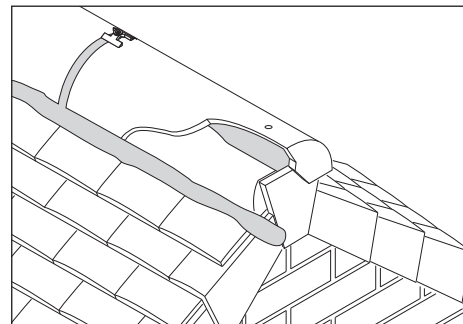

Fig. 5 – Mortar bedded stop end ridge tile used to finish cloak verge at ridge
- 7 Complete the apex closure of the two top course cloak verge tiles by fitting a Stop End Ridge Tile and a tile-and-a-half/gable tile, cut to fit between the vertical legs of the top course cloak verge tiles. Drill and nail cut tile to timber groundwork (Fig. 5).